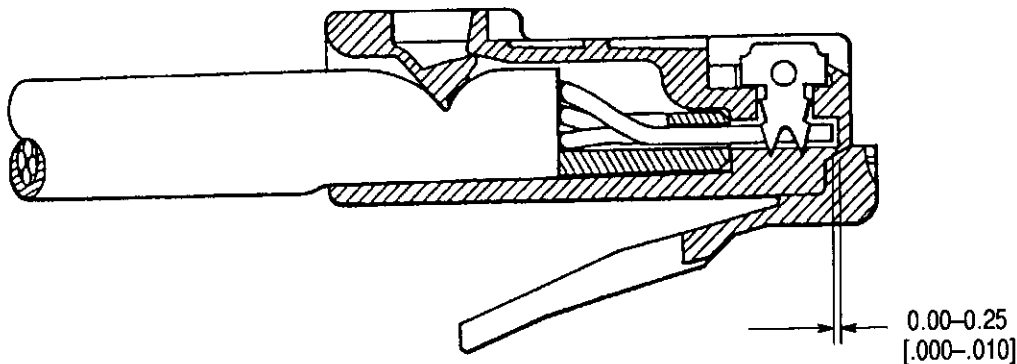

Figure 8
A. It is preferred that all conductors be visually bottomed against the end of the wire entry circuits. If individual conductors are not completely inserted when visually inspected after termination, they shall be at least inserted past the contact and into the 0.25 [.010] reference zone as shown in Figure 8, to ensure a proper electrical interface with the contact and conductor.